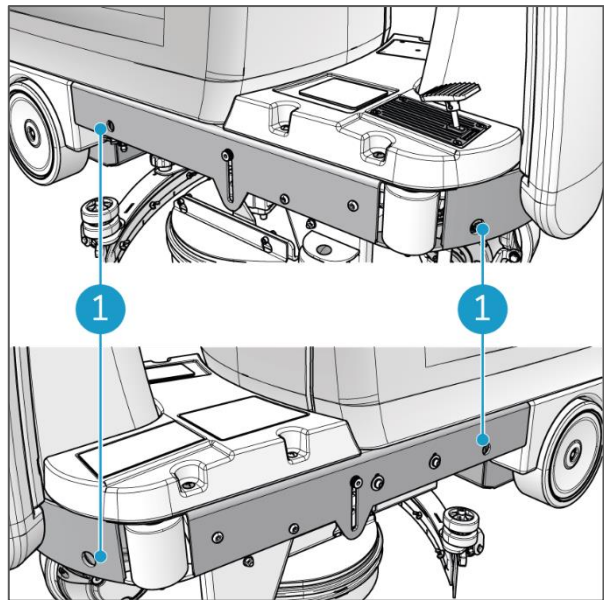

Figure 12
9. Secure the machine using straps or rope through the 4 holes in the chassis (Figure 12, pos 1).